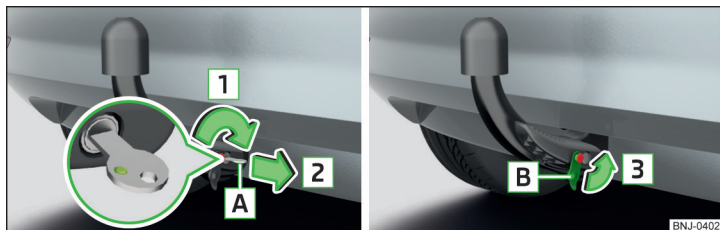

Fig. 237 Secure the lock and remove key / place cap on lock
- Turn key **A** in the direction of arrow **1** so that the green marking is pointing upwards » Fig. 237.